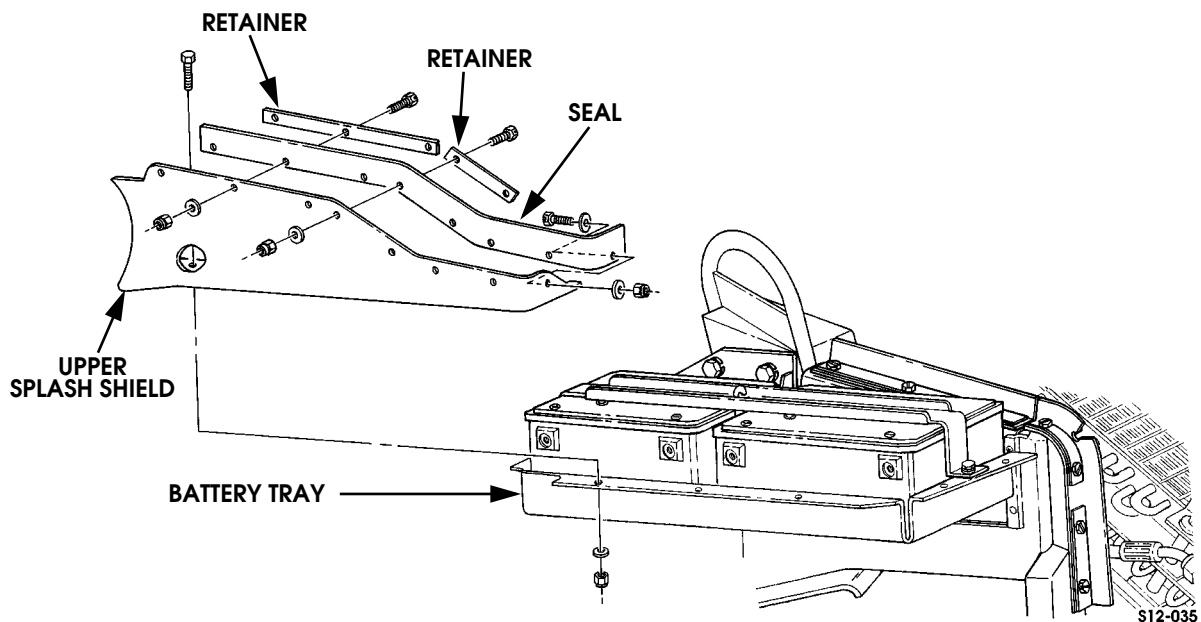

Figure 12-13: Upper Splash Shield Attachment
1. Remove upper splash shield and seal (Figure 12-13).